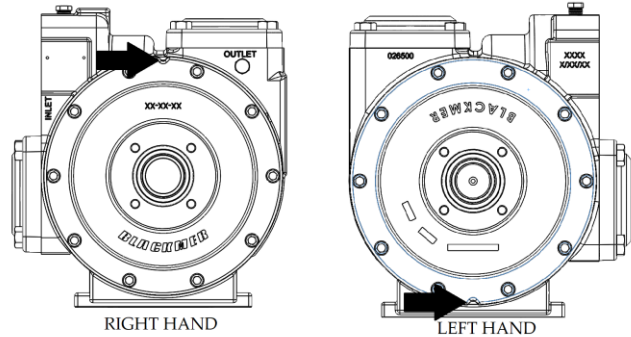

Figure 10 – Outboard Head Orientation
3. Install the head o-ring (72) into the outboard head (23 o-ring groove). Use a chemically compatible, high viscosity grease to hold o-ring into the groove. Place head onto cylinder (12), with the cast locating notch facing up for right hand built pumps and down for left hand builds. See Figure 10.